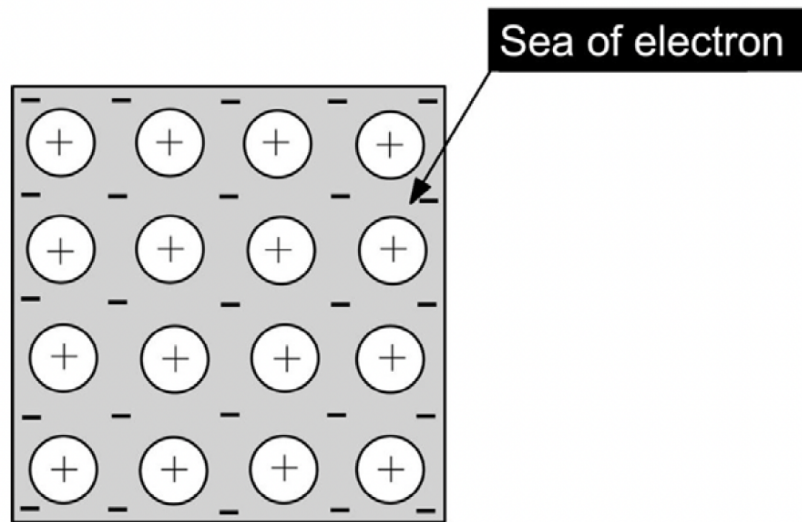

Fig. 1.17: A metallic crystal pictured as a lattice of +ve ions embedded in 'sea' of electrons.
- **Fig. 1.17: Metallic Bonding**